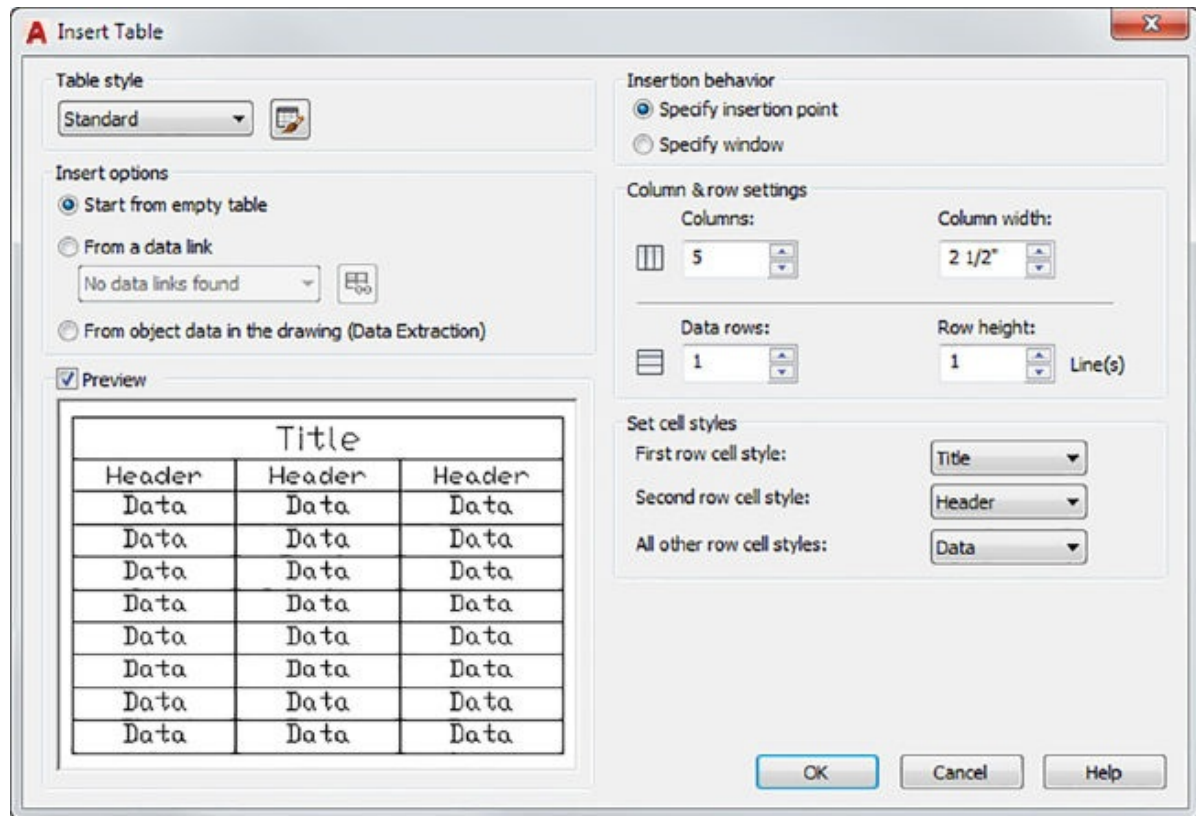

FIGURE 10.7 The Insert Table dialog box
2. Click Table in the Home tab's Annotation panel to open the Insert Table dialog box (see Figure 10.7). You can also click the Table tool in the Annotate tab's Tables panel or type **Tb** ↵.